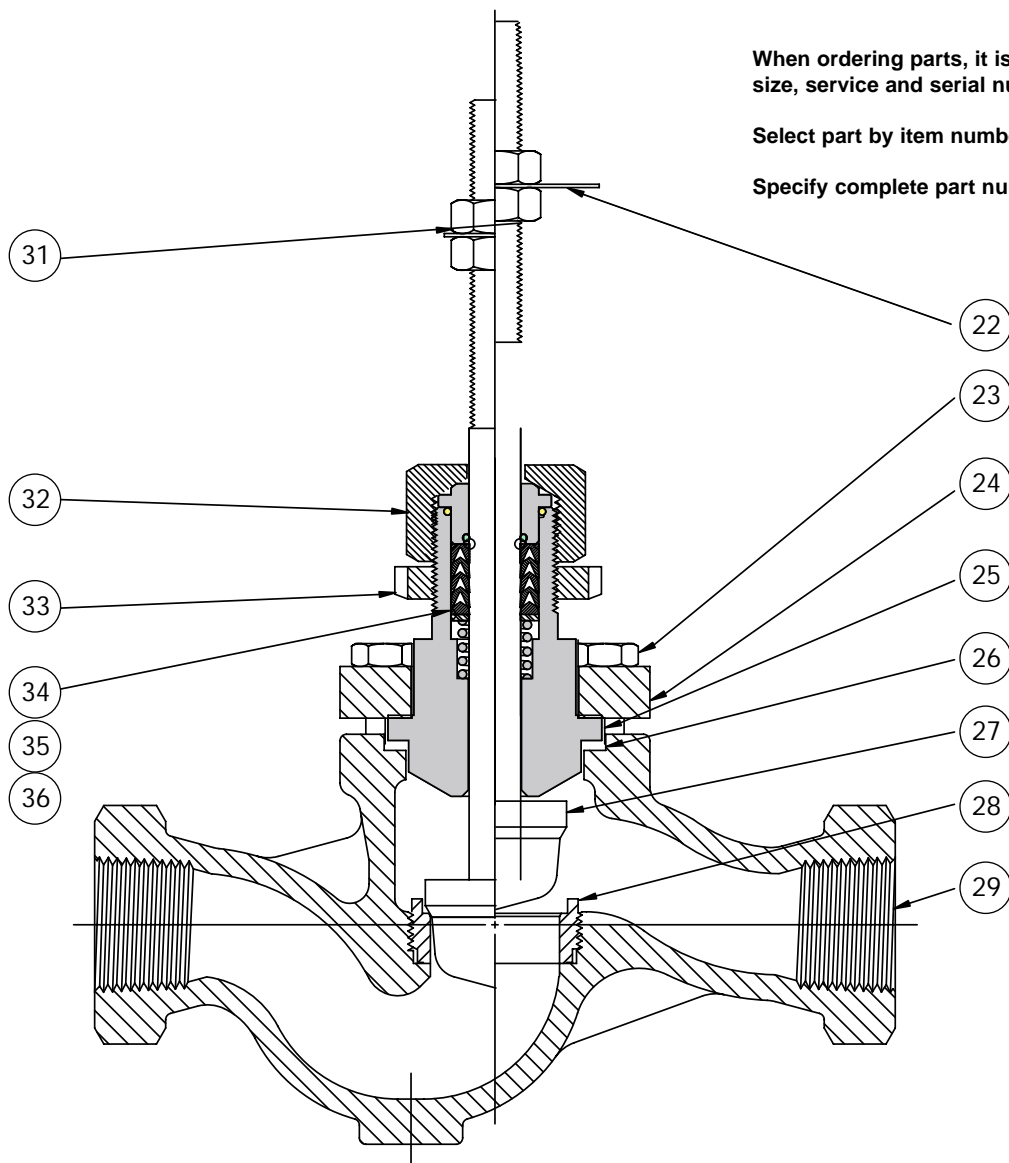

FIGURE 2 - VALVE BODY ASSEMBLY
Remove stem nuts (31), indicator (22), packing nut (32) and lock nut (33) as shown in Figure 2. Lift yoke off the bonnet (25). Remove bonnet bolts (23) and lift off bonnet flange (24), bonnet and stem and plug assembly (27). Remove gasket (26). A new gasket should be installed each time the valve body is disassembled. Turn stem and plug assembly out of the bonnet through packing. Replace packing if necessary. All parts should be inspected for wear and cleaned thoroughly before re-assembling the valve body.